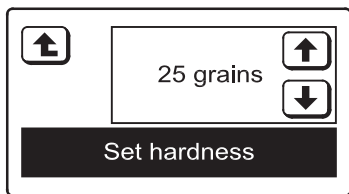

FIG. 47
3. Press the SET HARDNESS button and the display will change to show the **Set hardness** screen (See Figure 47).